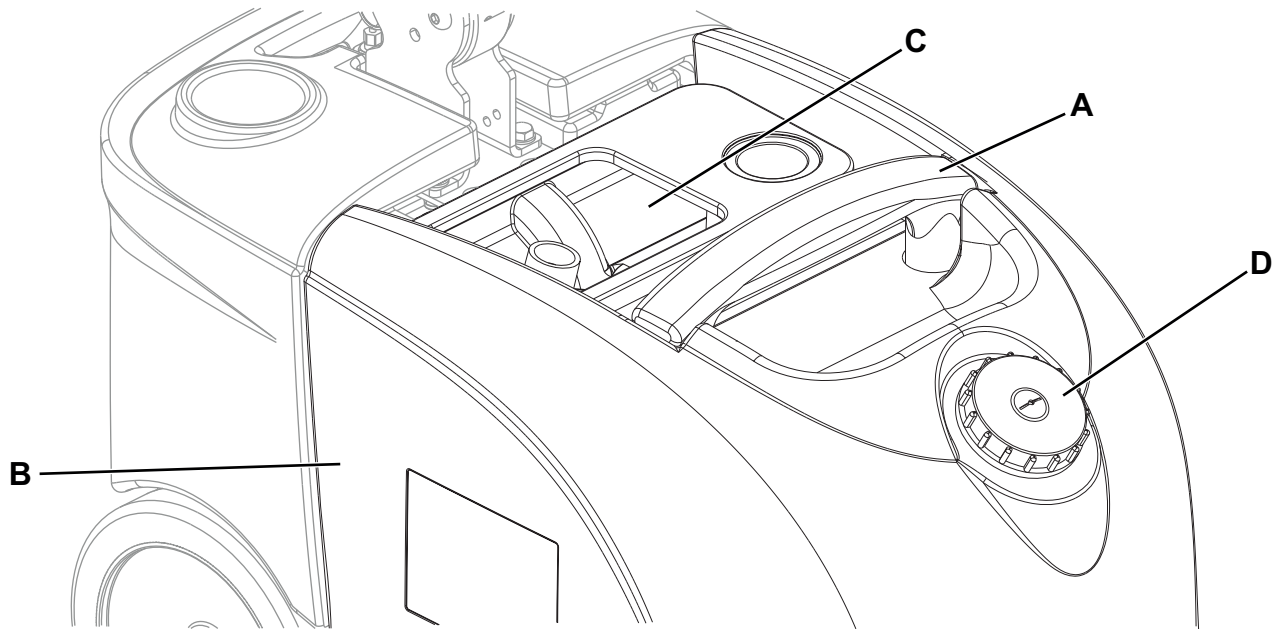

Figure 3
1. Check that the function selection knob (31) is turned to "0".
3. Remove the transparent cover (24).
4. Grasp the handle (A, Fig. 3) and lift the tank assembly (B).
5. Empty the recovery tank (C). Then, rinse the tank with clean water.
6. Open the plug (D) and drain the solution tank. Then, rinse the tank with clean water.
7. Reinstall the tank assembly (22) on the machine frame and the transparent cover (23).